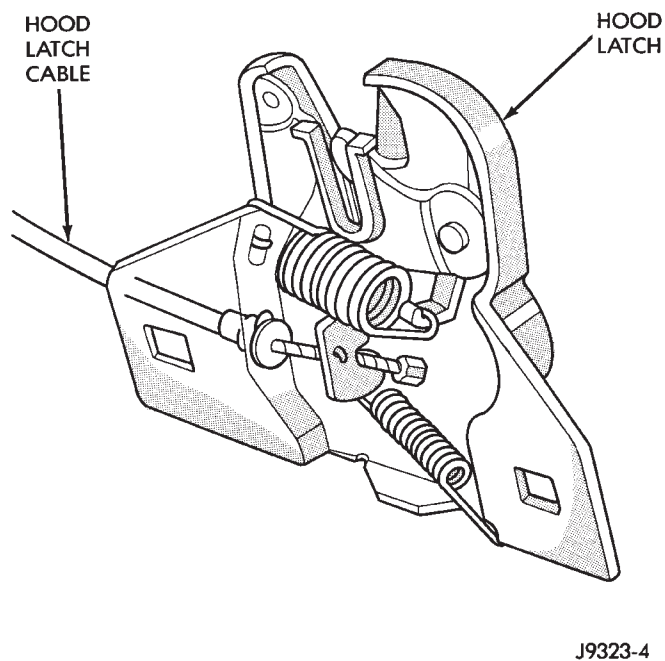

Fig. 14 Hood Latch
(3) Adjust the hood latch (Fig. 14) as necessary. Tighten the nuts to 11 N•m (8 ft-lbs) torque after adjustment.
- (1) Disconnect cable from hood latch (Fig. 14).